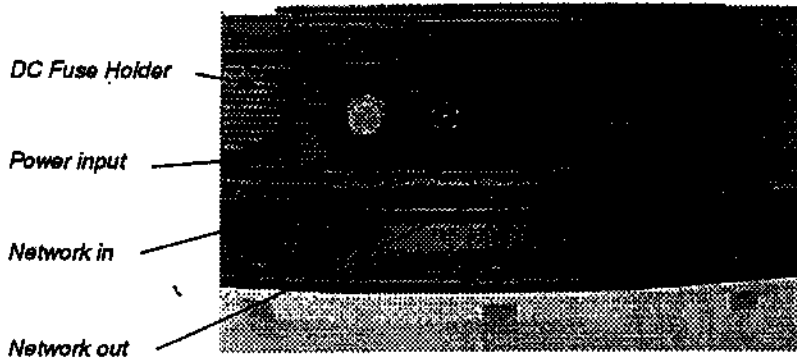

Figure 2-2 Fuse holder, power and network connector ports
- a. Turn the connector so that its notch is on the side nearest the SaviReader's dome. (See Figure 2-2.)